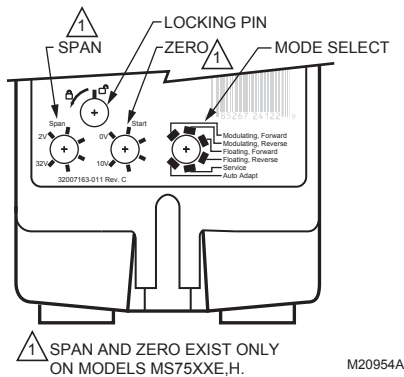

Fig. 4. Dials for control signal and zero/span.
**NOTE:** Selections are made using a dial that appears on both the front and back of the actuator (see Fig. 4). For available options, see Table 5.
These actuators have the capability of adjustable zero and span. Fig. 4 shows the dials. These dials are present only on the Enhanced Modulating models. A basic description of these dials follows:
2. Turn the zero dial (see Fig. 4) past the desired start point.
5. Turn the span dial (see Fig. 4) to the minimum setting (2 Vdc).